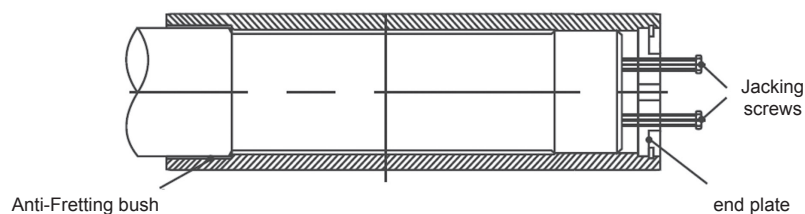

Figure 6: Removing Gear Unit
- 5.6.2.3.3 Withdraw gear unit from driven shaft (See Figure 6).